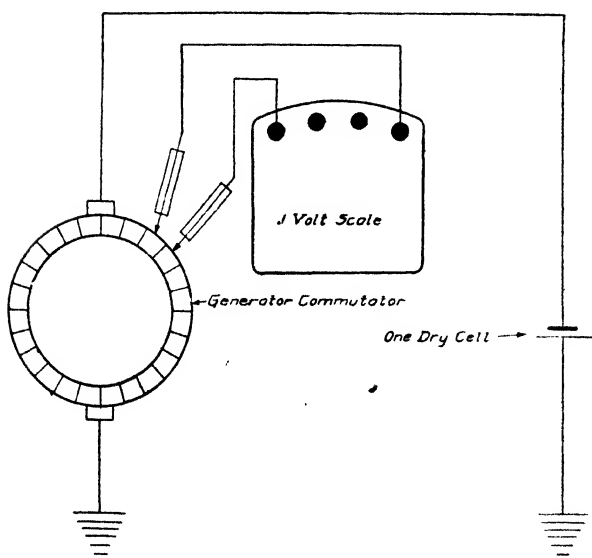

Fig. 268. Diagram of Set-Up when Coils Are Short-Circuited
(2) *Short-Circuited Coils.* If there are no open-circuited coils and the preceding tests indicate that there is trouble with the armature, it should be tested for short-circuited coils. This should be done only after the preceding tests have been made, as an open-circuited coil might cause the .1-volt scale of the voltmeter to burn out if this test were made first. The armature is connected as indicated in (1) above, but for this test the .1-volt scale instead of the 3-volt scale of the voltmeter is used, Fig. 268. The voltage drop between adjacent commutator bars is then measured by slowly turning the commutator over by hand. The readings should be approximately the same. If any of them drop nearly to zero, it will indicate that one or more of the armature coils are short-circuited. In taking these readings, care must be observed to keep the points always on adjacent commutator bars and not allow them both to come on the same bar at any time; otherwise, the voltage drop may be sufficient to injure the voltmeter.